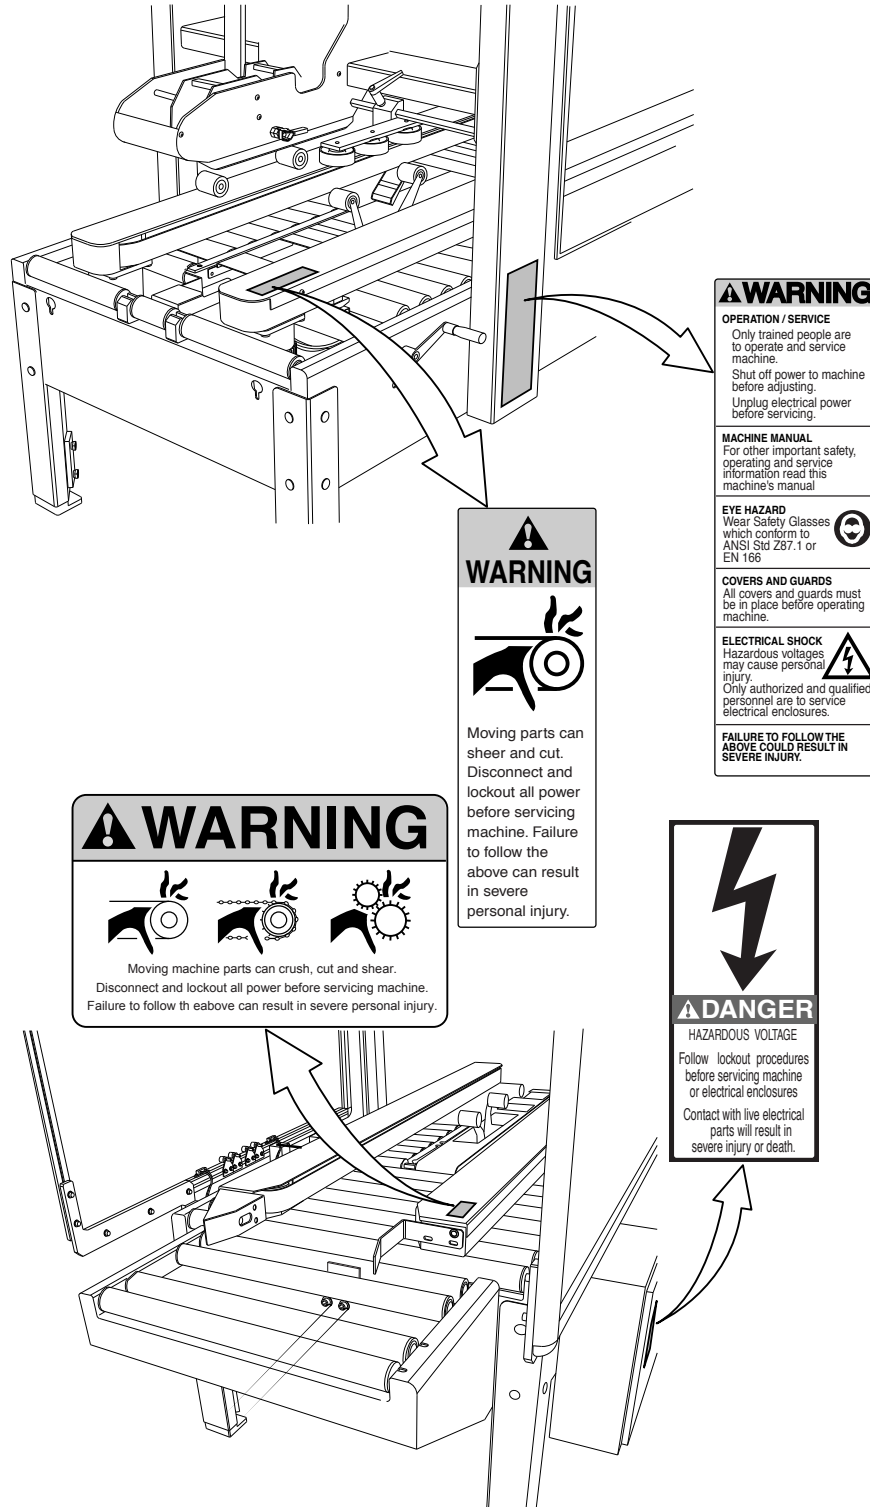

Figure 5 Safety Decal Location
2.2 Safety decal location – Figure 5